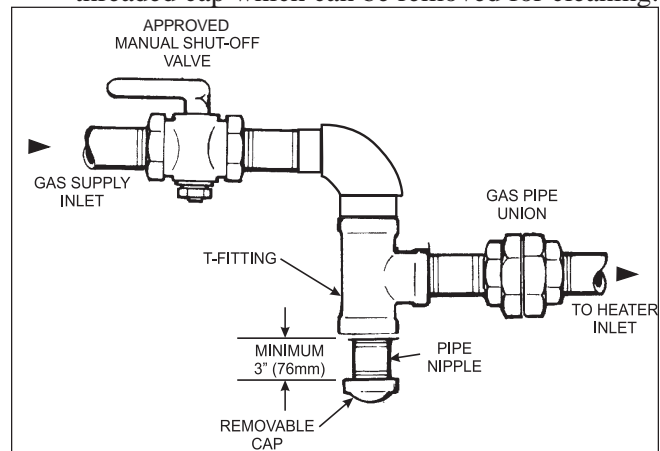

Figure 9. Proper Design for a Sediment Trap/Drip Leg
- Install a sediment trap (drip leg) ahead of the gas controls (see Figure 9). Fit the trap with a threaded cap which can be removed for cleaning.
The inlet/outlet header of the LX and LT Low NOx heater comes equipped with an automatic flow control valve. The automatic flow control valve maintains the proper flow through the heater at rates up to approximately 125 Gallons Per Minute (GPM) (475 liters per minute [LPM]). If the filter system flow rate is higher than approximately 125 GPM (475 LPM), install a manual bypass valve (see Figure 9), then perform a temperature rise test (see Section 7.6) and adjust the flow using the bypass valve until the proper temperature rise is obtained.